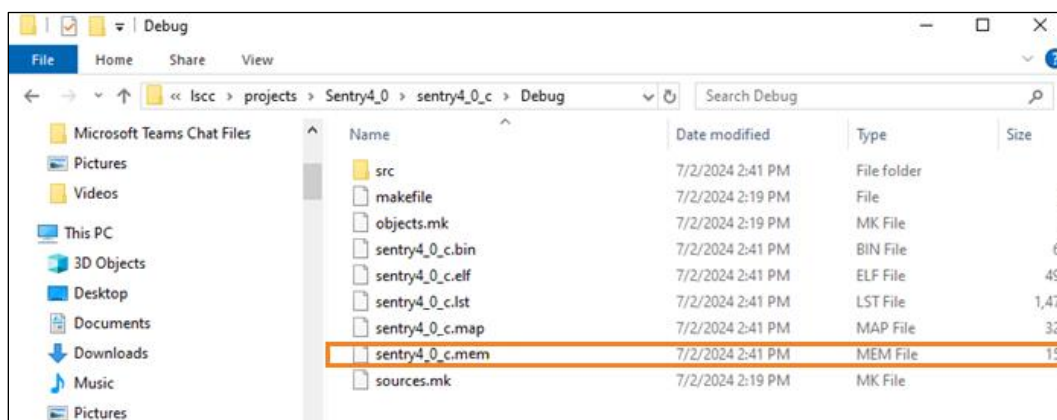

Figure 4.20. Location of Firmware .mem File
9. The .mem file generated when the project is built is located in the following directory (Figure 4.20):
11. The .mem file generated when the project is built is located in the following directory (Figure 4.20):